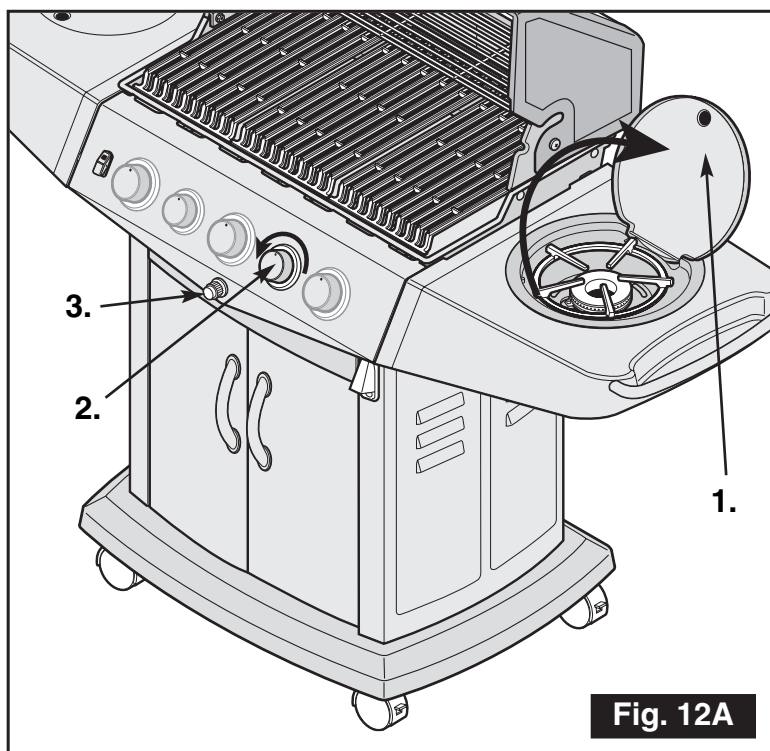

Fig. 12A
3. Depress ignitor. Repeat if necessary (see Figure 12A).